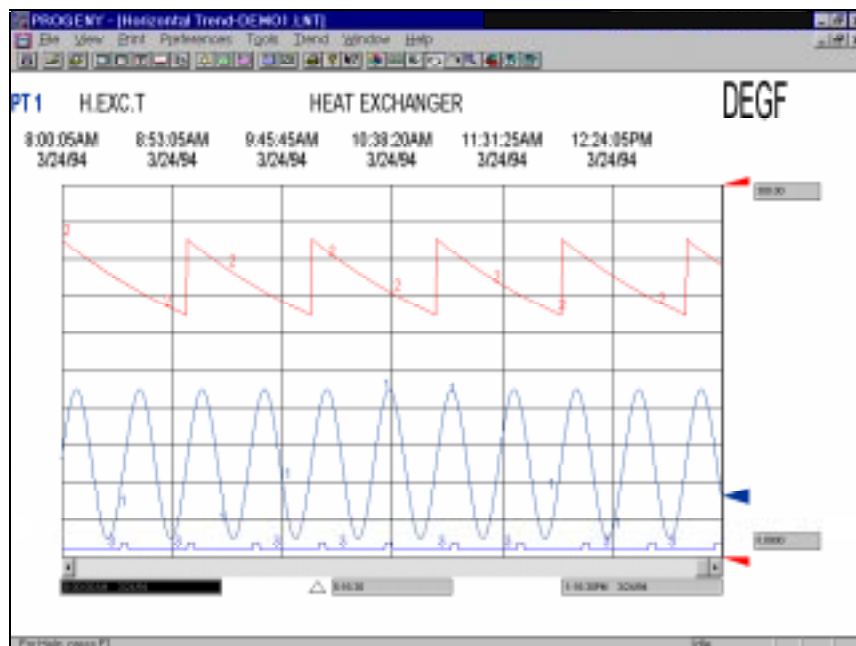
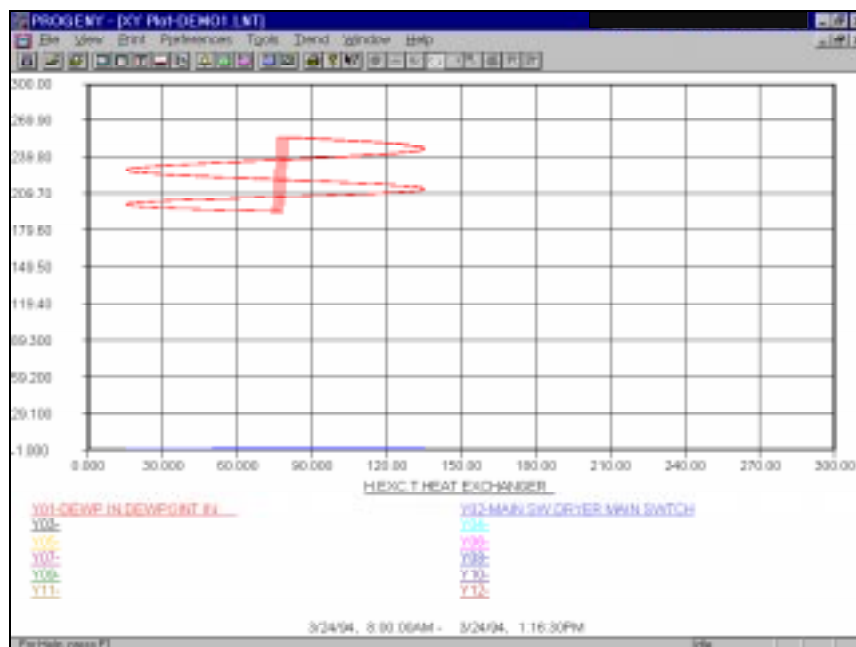

Figure 1 Horizontal Trend
Figure 2 XY Plot
- View trends horizontally (Figure 1), vertically, dual trend, as a data table, or as an XY plot (Figure 2).